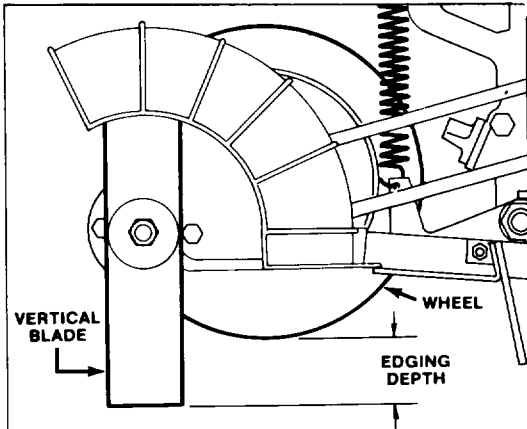

Figure 10
2. CHECK EDGING DEPTH (Fig. 10) — Squeeze blade/clutch lever against handle. Space between bottom of tire and ground is actual blade edging depth. If adjustment is required, go to step 3.